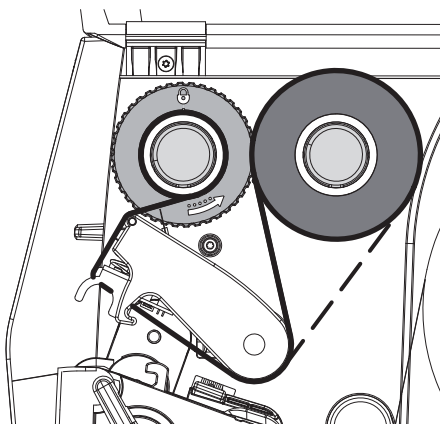

Figure 13 Transfer Ribbon Feed Path
5. Adjust the position of the guide on the take-up hub to the width of the ribbon core (4) and push ribbon core on the take-up hub (2).
6. Guide the transfer ribbon through the printing unit as shown in Figure 13.